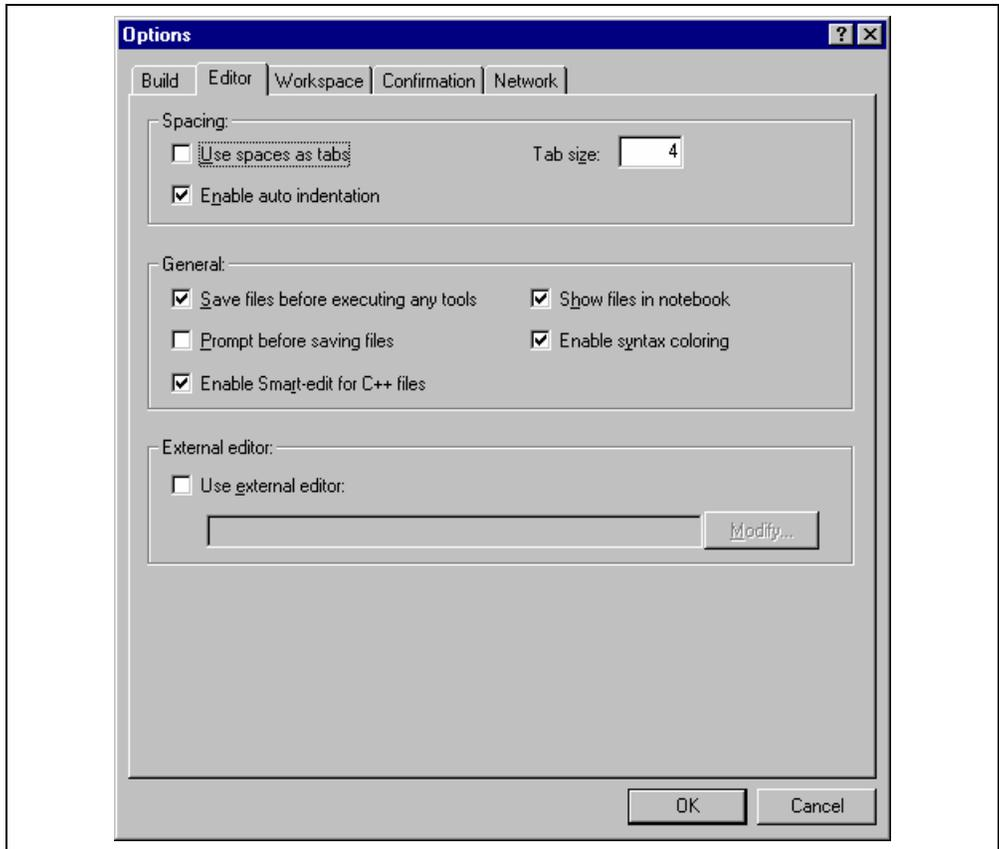

Figure 6.11: Options Dialog Editor Tab
1. Select **[Tools->Options...]**. The “Options” dialog will be displayed. Select the “Editor” tab (figure 6.11).
The High-performance Embedded Workshop allows you to customize file save on the “Editor” tab of the “Options” dialog (figure 6.11). To open the tab, select [**Tools->Options...**] and click the “Editor” tab.